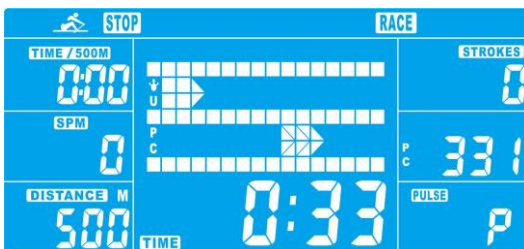
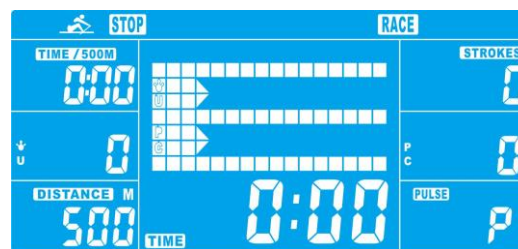

Fig. 12
Fig. 13
c. Press START/STOP to start exercising. The progress of the USER ("U") and PC will be displayed on the control panel (Fig. 12). The virtual distance will be shown as well (Fig. 13).